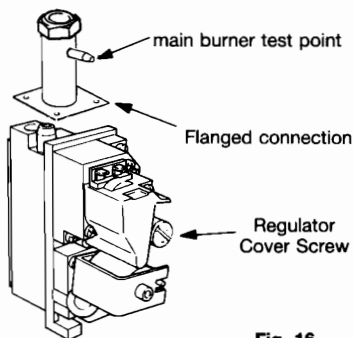

Fig. 16
- 6.6.3** Locate the main burner pressure test point (Fig 16) and slacken the screw half a turn in an anti clockwise direction. Attach a suitable pressure gauge. Turn on the boiler for central heating.
- 6.6.4** The pressure reading for maximum output should be. 10.6 mbar/4.26in wg (plus or minus 1.0mbar/0.42in wg). If the pressure is wrong or if it is required lower it should be adjusted by removing regulator cover screw (fig 16) and adjust regulating screw underneath. Once this pressure has been fixed it should be indelibly recorded on the data badge. This is to ensure that the burner can be reset when any service operation involves alteration of burner settings.